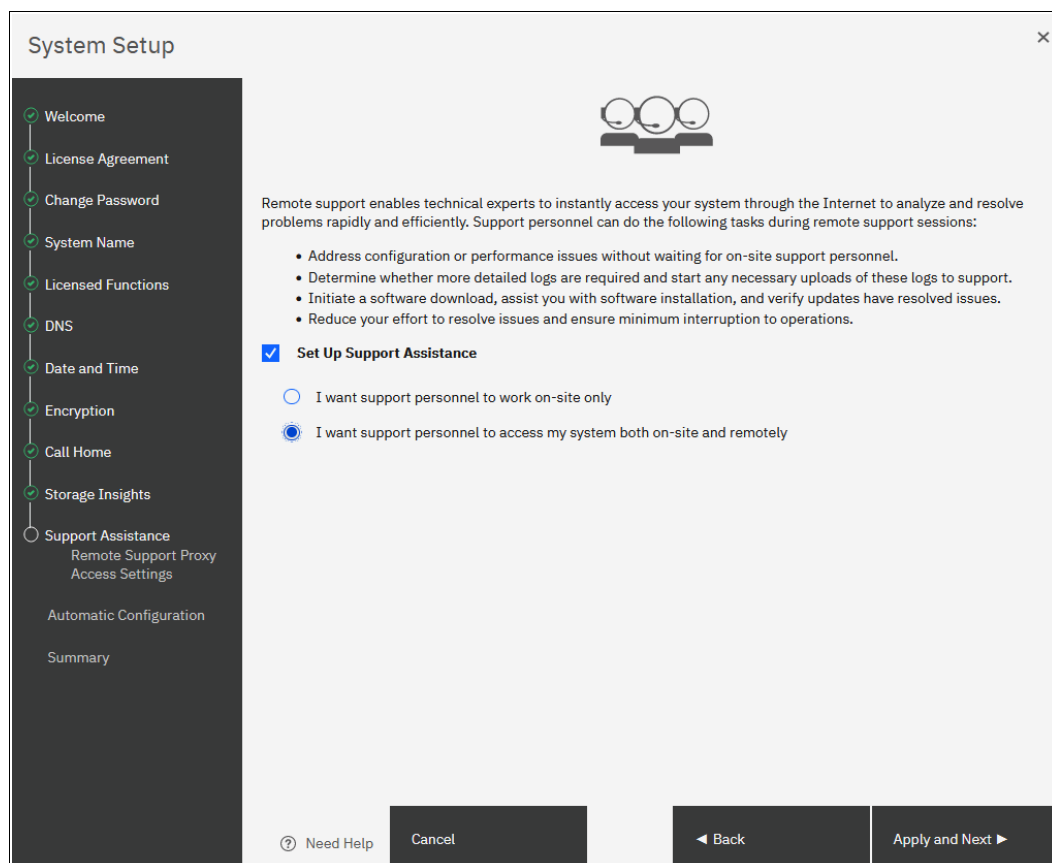

Figure 3-27 Support assistance
18. If you enabled at least one Call Home method, the Support Assistance configuration window opens, as shown in Figure 3-27. The Support Assistance function requires Call Home; therefore, if it is disabled, Support Assistance cannot be used. Click **Next** to continue.